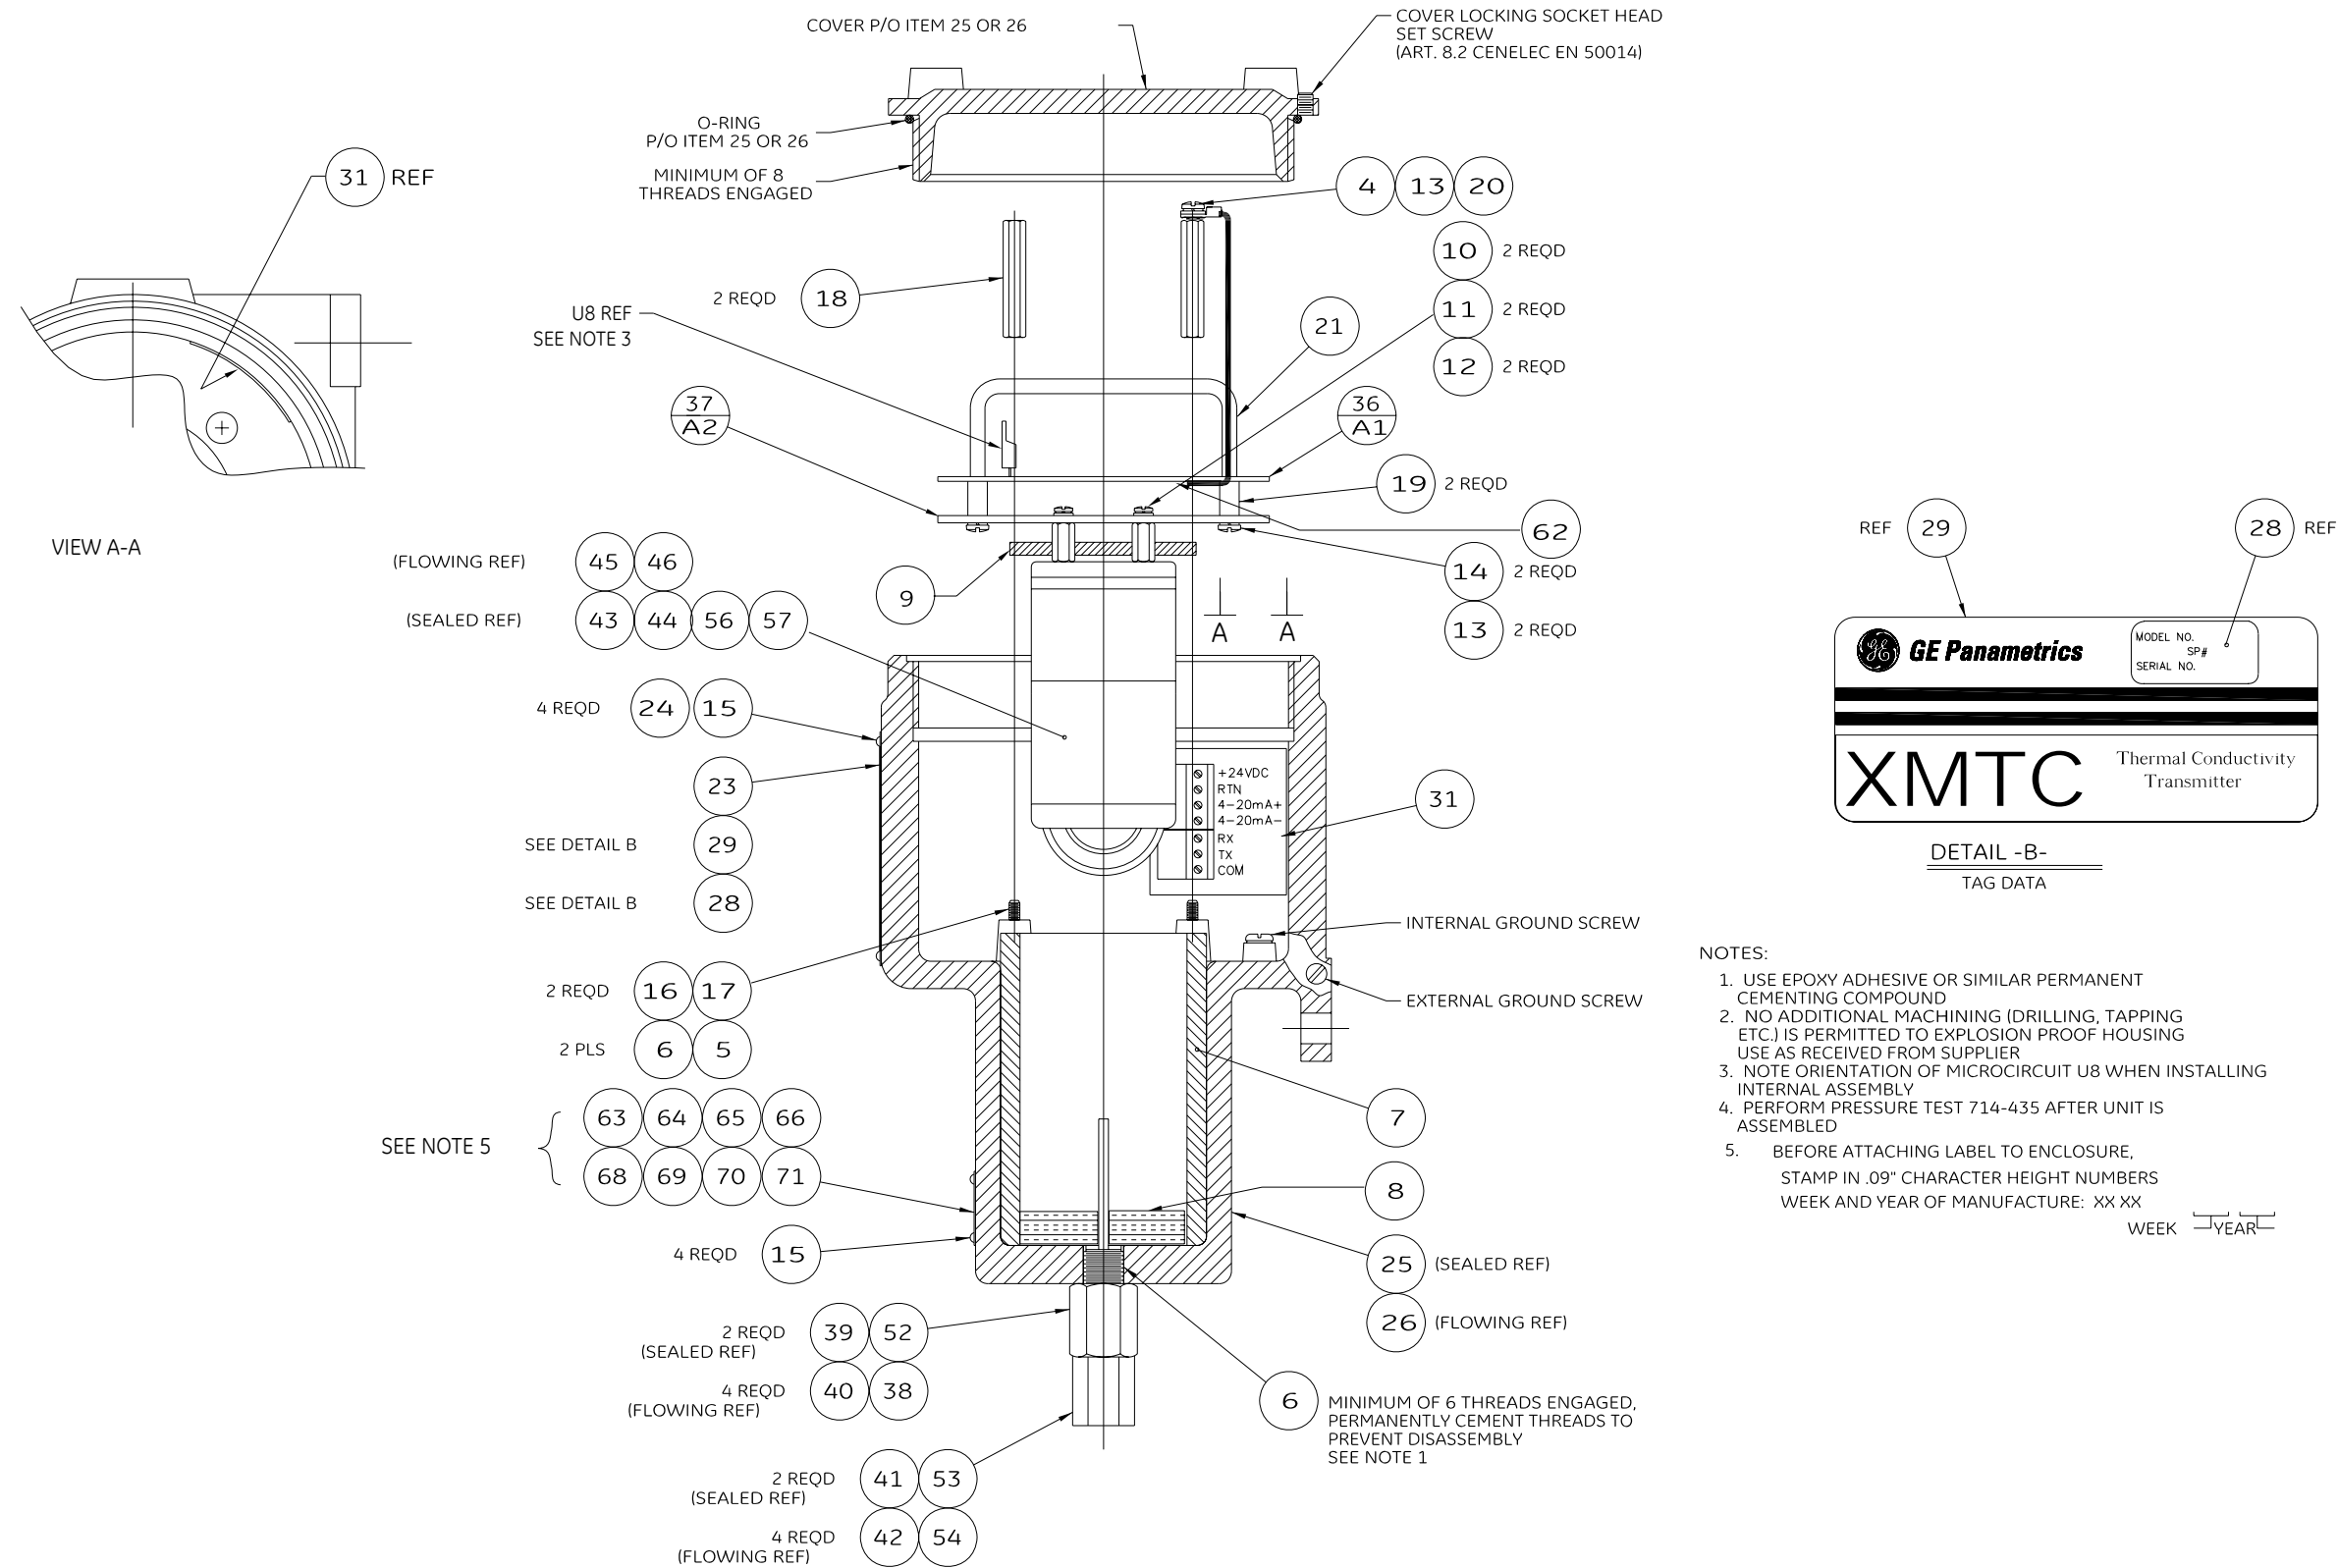

Figure 62: Assembly - Thermal Conductivity Transmitter (705-807\_M)
- Figure 62, "Assembly - Thermal Conductivity Transmitter (705-807\_M)," on page 73